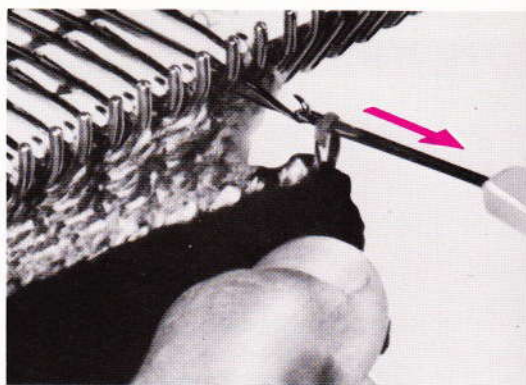

Fig. 65
- the first stitch at the right onto the 2nd needles, (fig. 65)